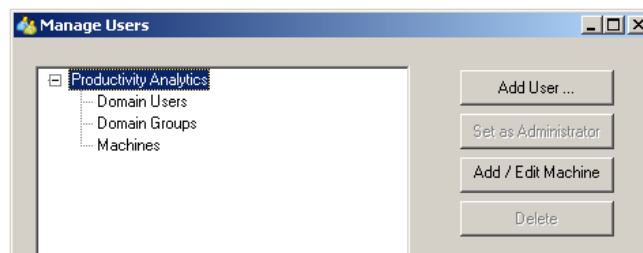

Figure L2.9 - Manage Users Dialog
2. Select Actions → Manage Users to open the Manage Users dialog, as shown in Figure L2.9.